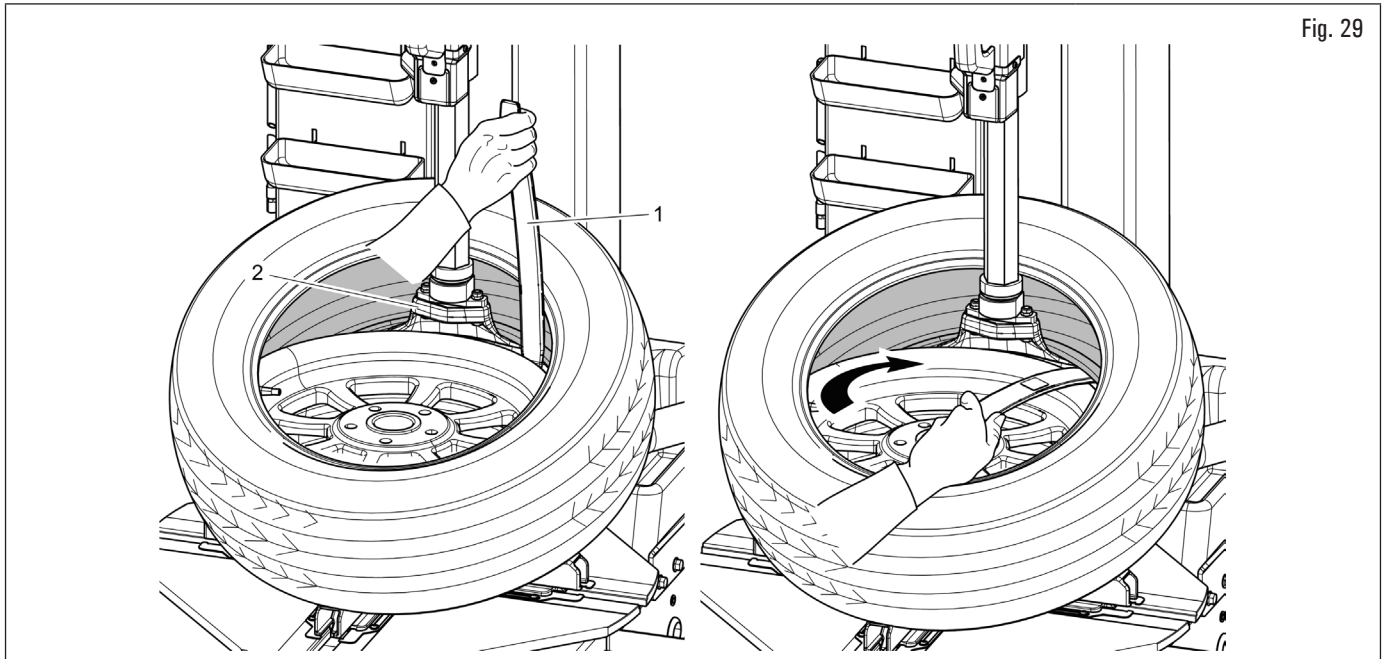

Fig. 29
7. with the help of the lever (Fig. 29 ref. 1) bring the second bead of the tyre on the nail of the toolhead (Fig. 29 ref. 2);
8. while keeping the lever (Fig. 29 ref. 1) in this position, turn the spindle clockwise until the tyre is completely out of the rim;